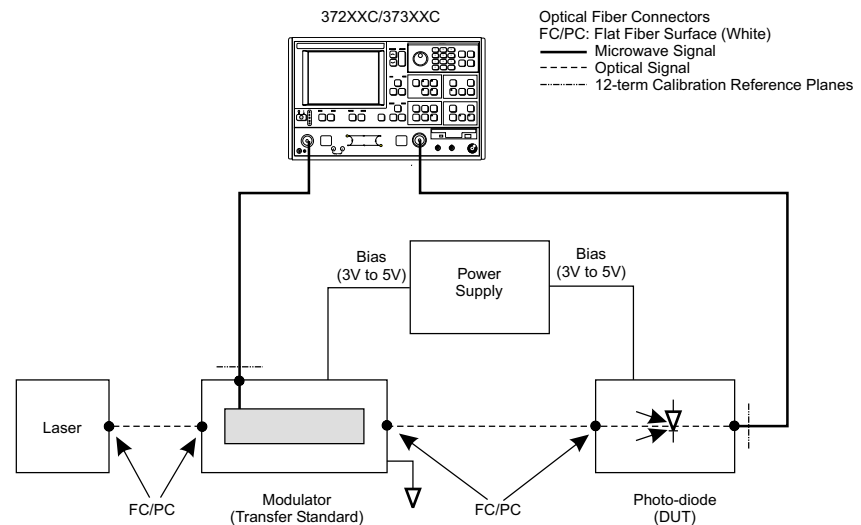

Figure 8-35. O/E Measurement Set-up
modulator are required, in addition to the VNA, to make O/E measurements. See Figure 8-35, below, for the equipment set-up.
- Step 1.** Set-up the measurement as shown in Figure 8-35, above.
With the measurement set-up as shown in Figure 8-35, select DE-EMBED O/E S2P (DETECTOR STD).